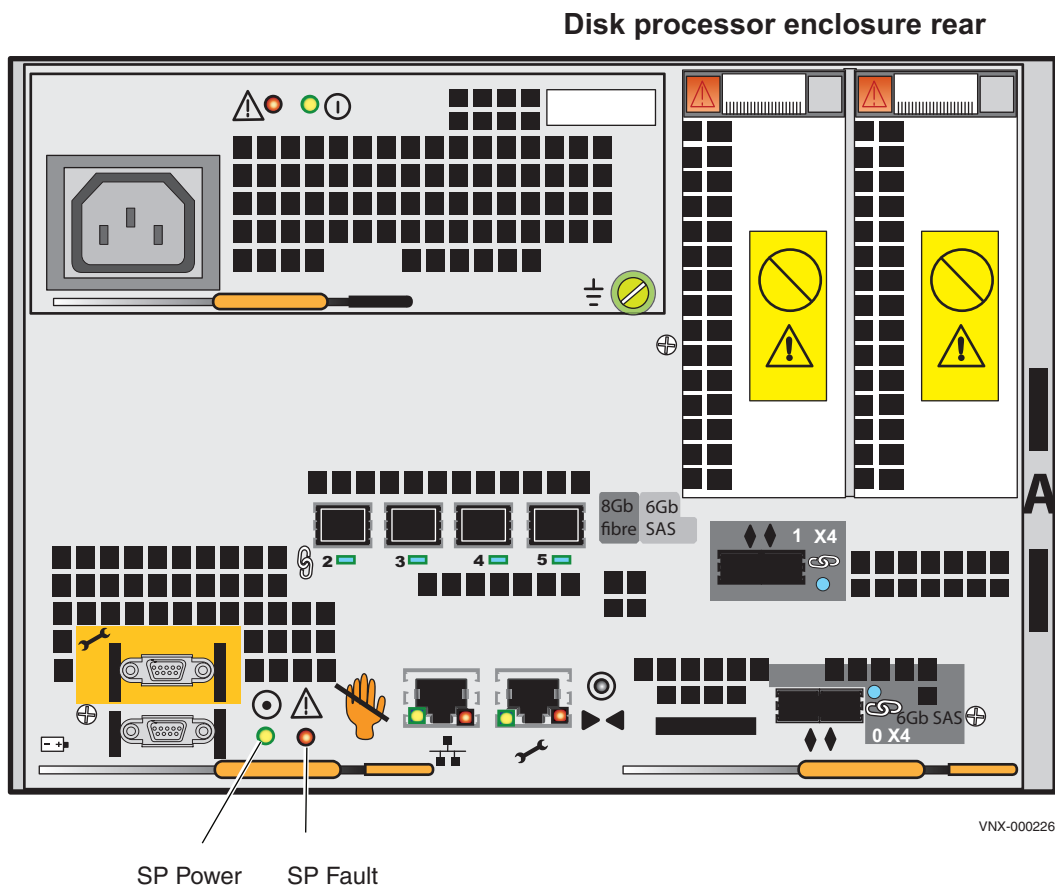

Figure 13 SP LEDs
2. Verify that the SP Power LEDs on SP A and SP B located at the rear of the DPE are solid green and the SP Fault LED is off as shown in Figure 13.